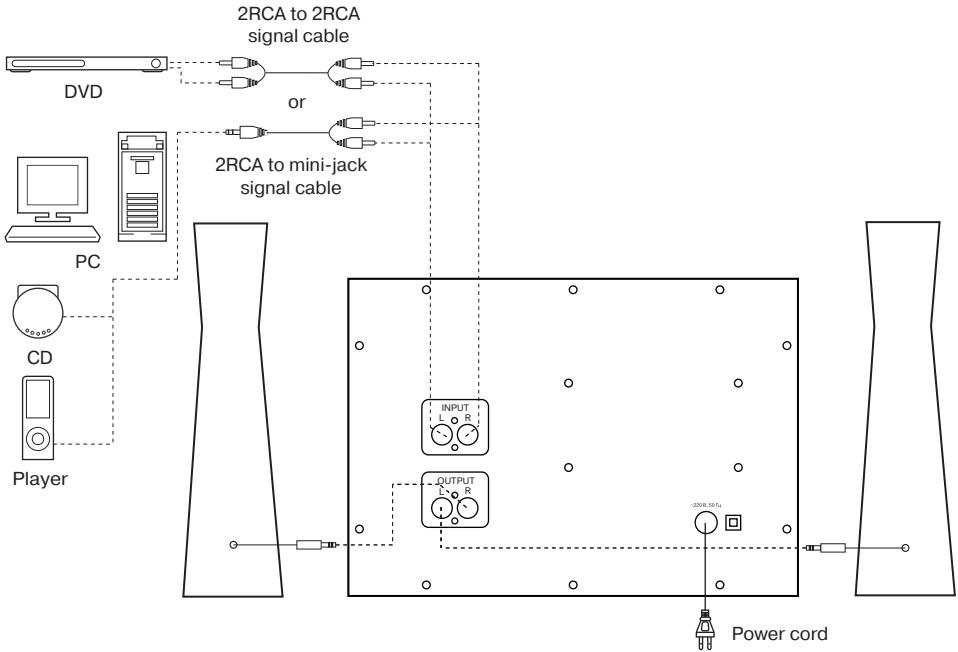

Fig. 3. Connection diagram
MS-1000 Multimedia Speaker System can be connected to virtually any audio source: DVD/CD, PC sound card, etc. (see Fig. 3 below).
- Insert RCA-jack of signal cable (included) into subwoofer INPUT ⑥ and opposite mini-jack of signal cable connect into LINE OUT port of PC sound card or OUTPUT of MP3/CD-player (see Fig. 3). To connect MSS to DVD-player or TV use stereo signal cables 2RCA to 2RCA (not included).